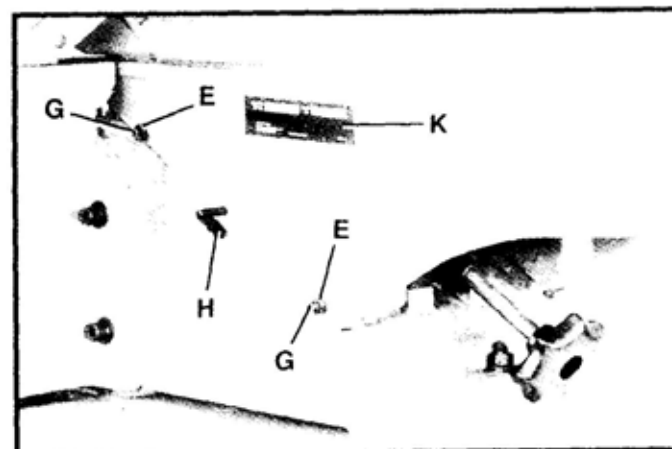

Fig. 50
2. To adjust the outfeed table, loosen locking lever (H) Fig. 50. Loosen two locknuts (E) and tighten or loosen two adjustment screws (G) as necessary. **NOTE:** Adjust the lower adjustment screw first and as you proceed to the upper adjustment screw, gently raise the outboard edge of the table. This will offset any tendency for the table casting to "droop or sag" and permit the gib to be adjusted to the proper fit to the upper adjustment screws. Tighten two locknuts (E) and locking lever (H).
The identification plate (K) Fig. 50, is located at the rear of the infeed table. Record the serial number and model number on the front of this manual for future reference.